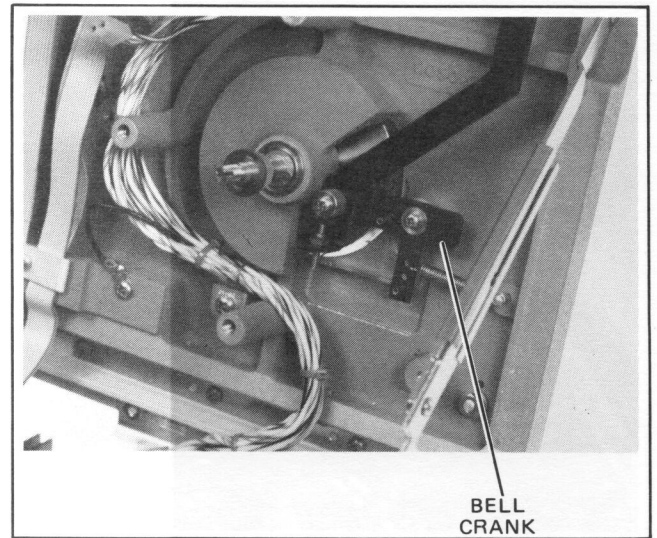

Figure 5-51. Bell Crank Removal
- Remove the bell cranks. They are attached to the transport with screws, washers, and bushings (see Figure 5-51). Hold brake band near eyelet while lifting bell crank free.